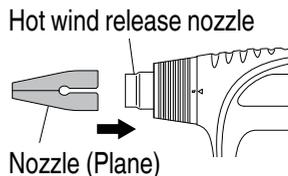

Fig. 4
3. Attaching the Nozzle (Fig. 4)